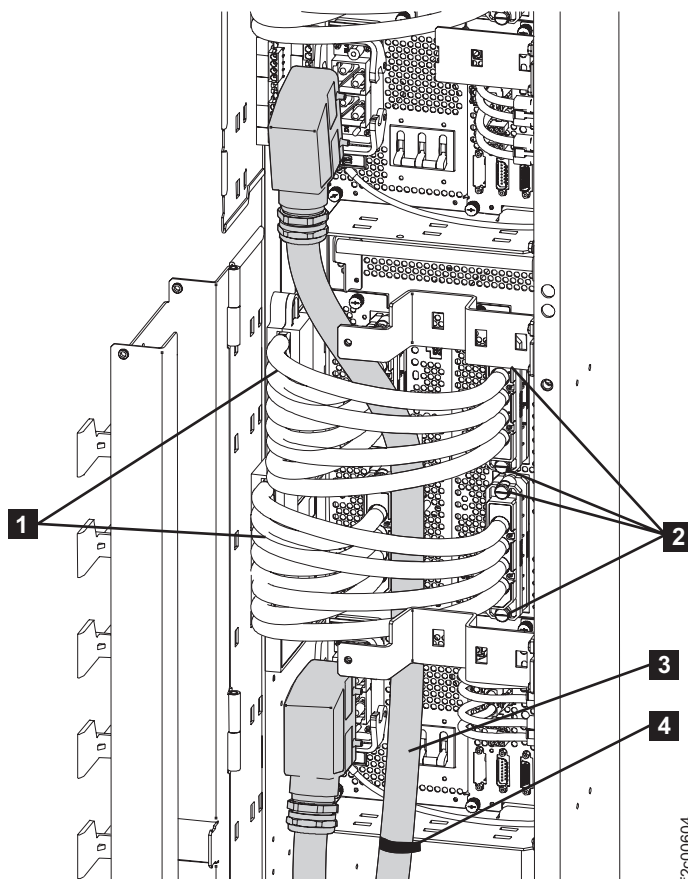

Figure 34. Expansion rack power cables
5. Route and connect the mainline power cables. For this task, you have the option of disconnecting the 5/12V DDM “Y” power cables. See Figure 34 on page 38. The four screws **2** that secure these cables to the PPSs are not captive, so do not let them fall when you remove them.
- a. Route the longer mainline power cable **3** up through the tailgate and behind the 5/12V DDM “Y” power cables **1**. See Figure 34 on page 38. To make this easier, you can temporarily disconnect the right-most connector of each “Y” power cable.